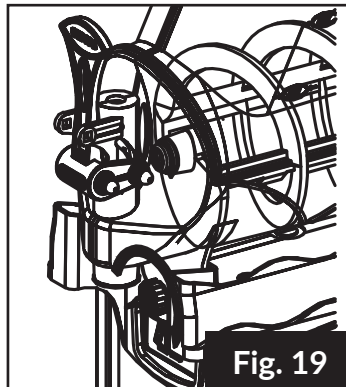

Fig. 19
7. Secure the bowl by screwing the Bowl Fixing Knobs clockwise. (Fig. 19)